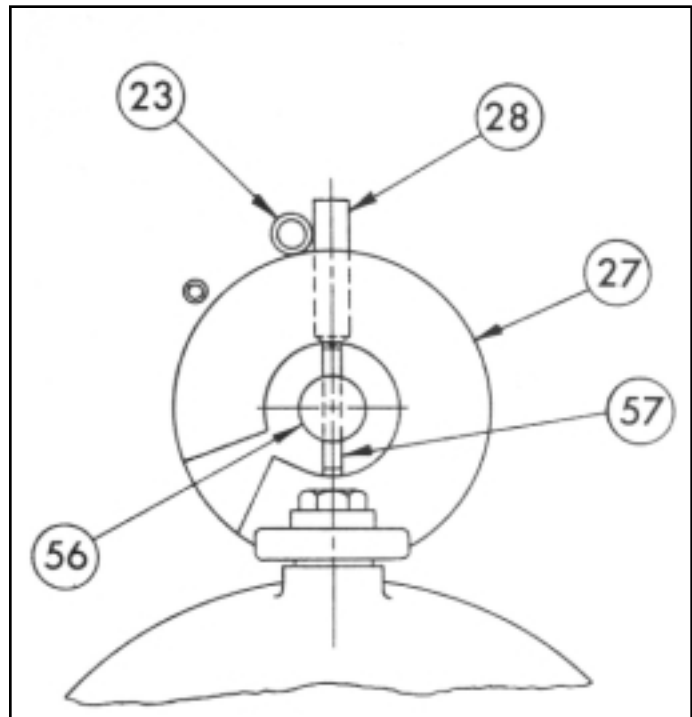

Figure 6.
Place shaft (56) through cam (27) engaging pin (57) in cam slot. Insert shaft and cam through bushing (21) in magnet plate from side opposite the coils. The stop pin (28) in the cam should be as shown in Figure 6. Place return spring over shaft on side with coils on, hooking spring (29) over pin (22). Holding shaft and cam in position, rotate the tang end of return spring counter clockwise $1/4$ turn, engaging tang into slot on shaft end. Install washer (30) and nut (31). Tighten nut (31) to take up end play only. There should be spring pressure holding the stop pin the cam against the stop pin in the magnet plate.